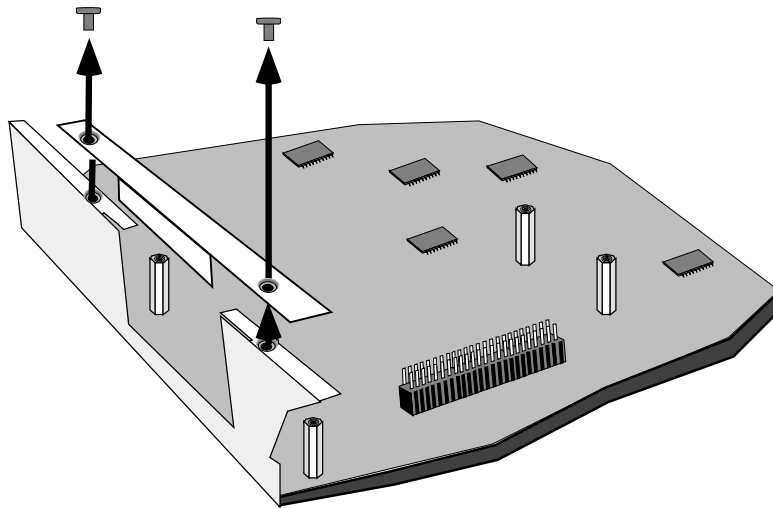

Figure 2-5. Removing the ATM-Port Retaining Plate
3. Use a Phillips-head screwdriver to remove the two flathead securing screws (see Figure 2-5). Set the screws aside.